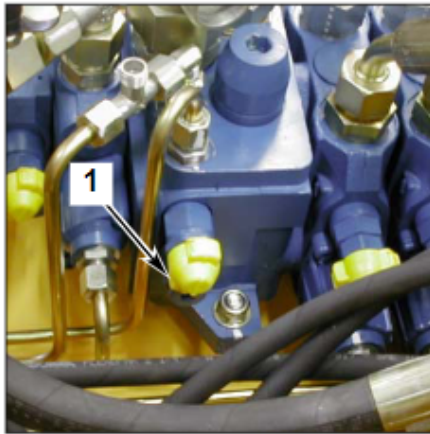

Fig. 1 SX14 valve block
- 1- Over-tare the L.S. valve on the valve block by turning the controller screw to blocked position (1 fig. 1).